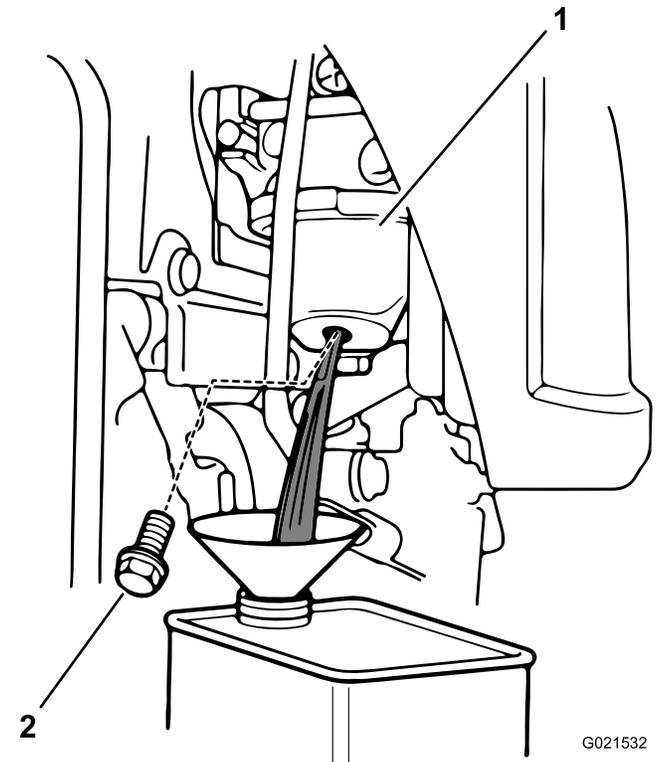

Figure 30
3. Place an approved gasoline container below the carburetor (Figure 30).
4. Remove the carburetor drain bolt (Figure 30).